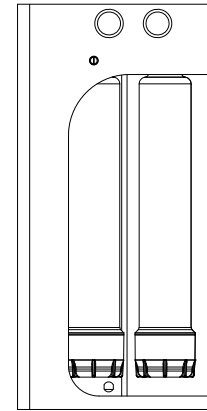

Figure 1
- 2.1 Open the carton, take out the machine, and lay it flat to a suitable installation position, as shown in Figure 1.